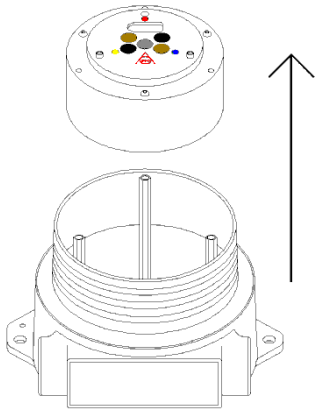

Figure 2-9
7. Slide the Detector Module “puck” out of the enclosure base (see Figure 2-9).